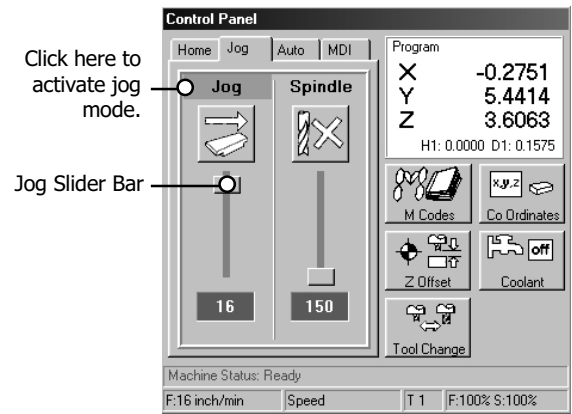

Figure 1
4. Click the Jog tab located in the Control Panel (Figure 1).
You may adjust the jog rate by moving the Jog Slider bar, Figure 1.